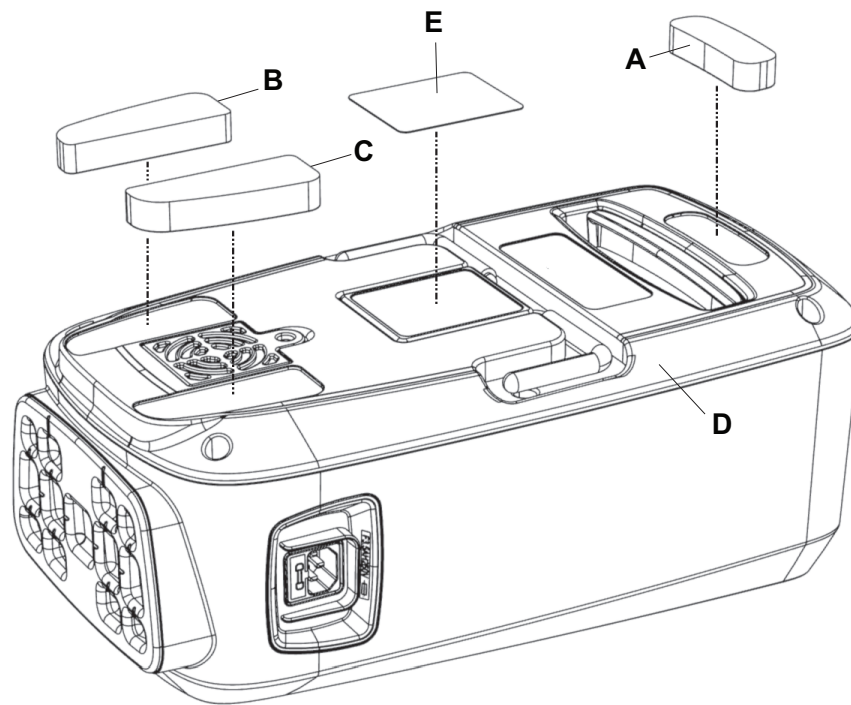

Figure 2 – Bumpers
3. Using a small slotted screwdriver, scrape under each bumper to remove. Start from the corner of each bumper to remove the top bumper (A), bottom left bumper (B), and bottom right bumper (C) from the back cover (D) (Figure 2). Discard the bumpers.